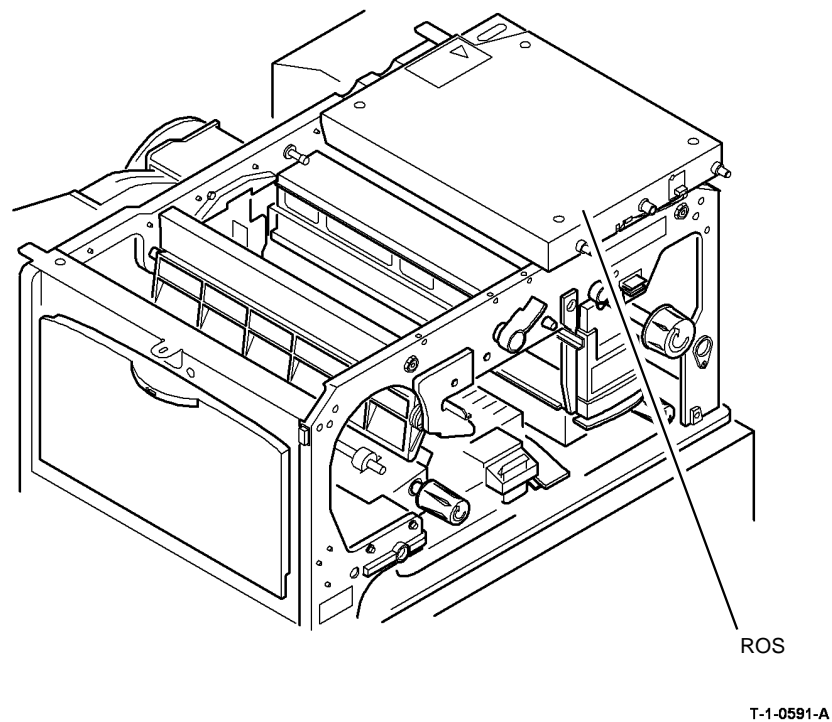

Figure 1 Position the ROS
3. Refer to **REP 6.1** and move the ROS to the side, **Figure 1**.